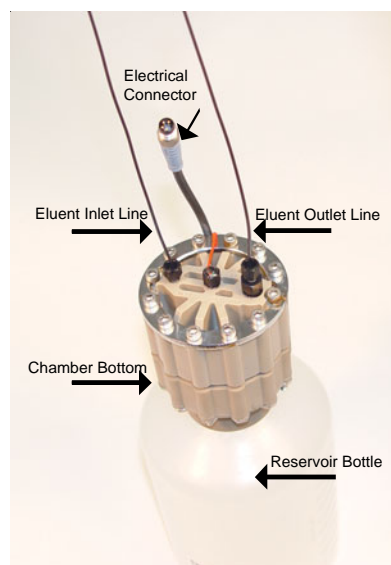

Figure 1
1.1 Plumbing (Figure 1)
- Place the EGC on a flat surface in front of the Eluent Generator (EG) with the Electrolysis Chamber and EGC INLET and OUTLET fittings facing up.